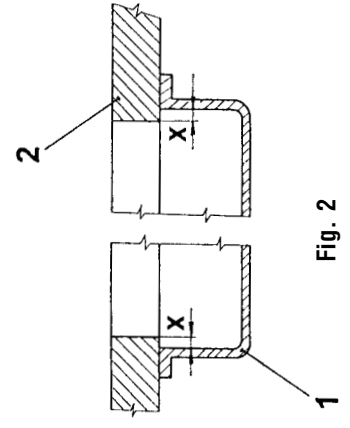

Fig. 2
5.1 Assembly of stand table top (Fig. 2, 3, 4, 5)
Put the rubber inserts for placing the machine head into the stand table top into the recess (2 and 3, Fig. 5). For better fastening, we recommend to stick on the inserts. When mounting the tray (1, Fig. 2) be sure in maintaining the distance "X" on the whole perimeter of the tray between the interior of the tray and the perimeter of the stand table top recesss (2).